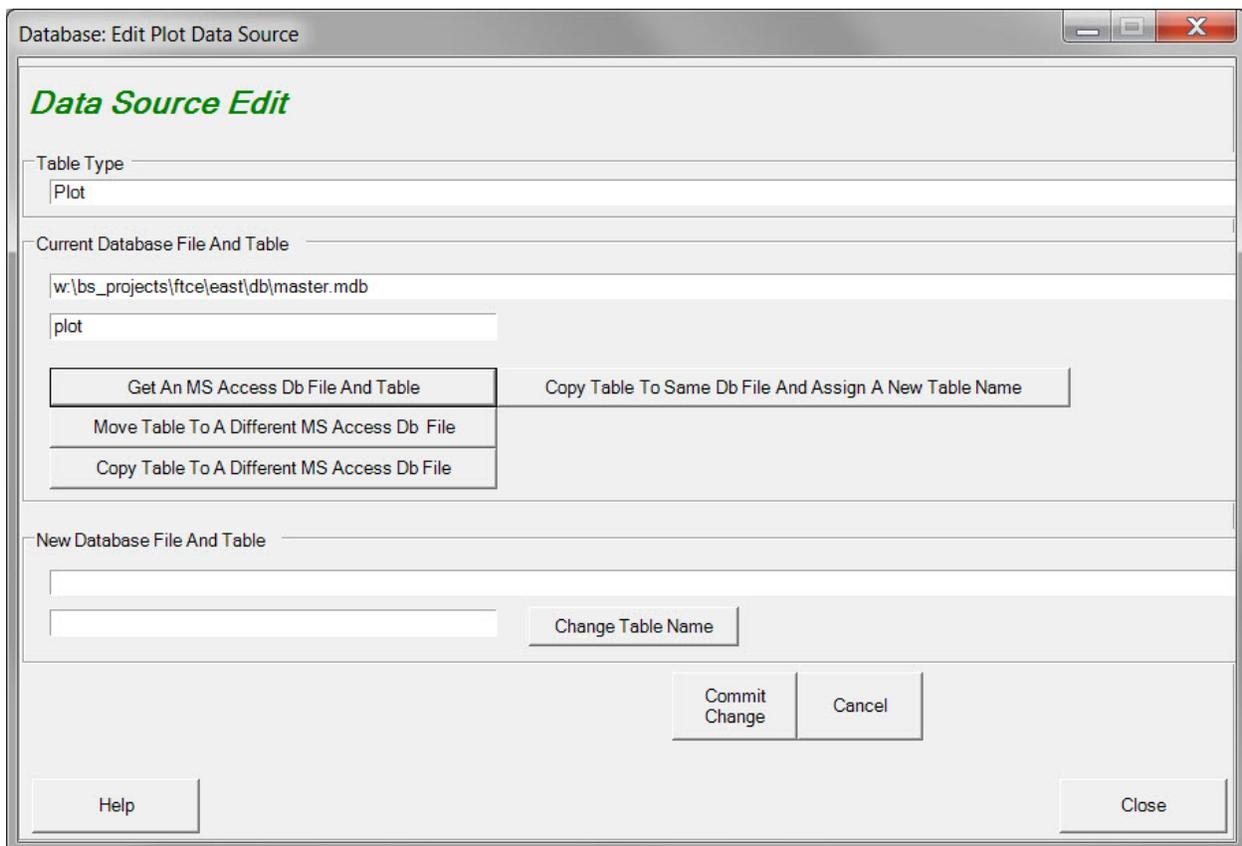

Figure 2.22- Editing data sources
3. Data sources can also be edited using this tool, giving the user the ability to manage tables that are used in a BioSum project. To edit a data source, select a table type and click the <Edit> button on the top left of the screen as shown in Figure 2.21. This tool displays where the selected table is currently stored and allows the user to move the selected table to a differed mdb file, copy the selected table to a different mdb file, or make a copy of the table within the same mdb file, assigning a new name to the copy (see Figure 2.22). One useful feature of this tool is that it allows the user to overcome the MS ACCESS 2GB file size limit by allowing a table to be copied to another MDB. Once the desired changes are made, select <Commit Change> then close the window with <Close> or the close control <x>.